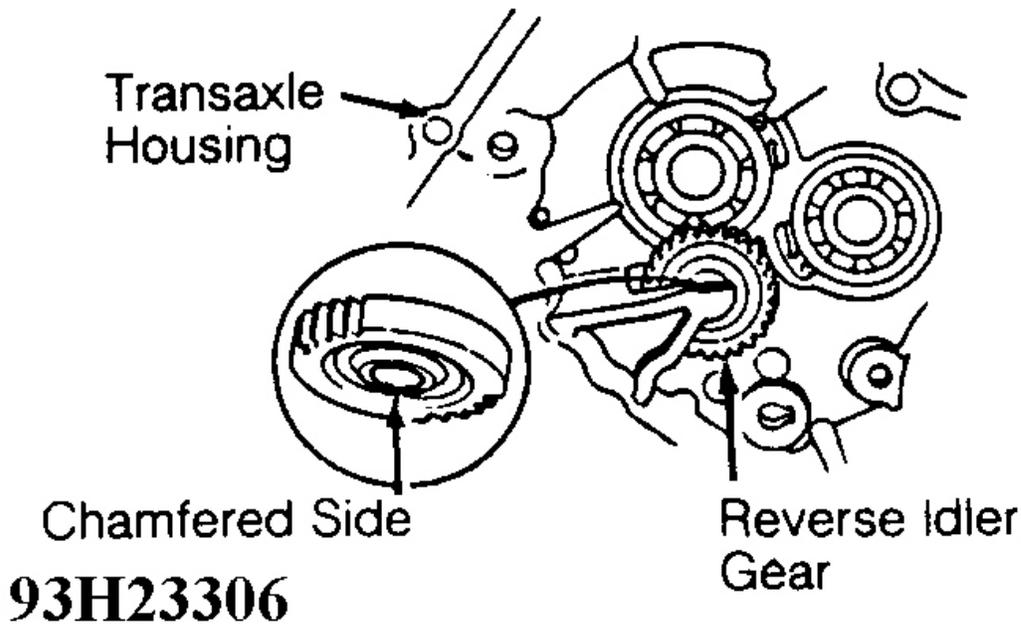

Fig. 32: Installing Reverse Idler Gear
3. Install reverse idler gear in transaxle housing with chamfered side of gear away from transaxle housing (toward torque converter housing). See Fig. 32 .